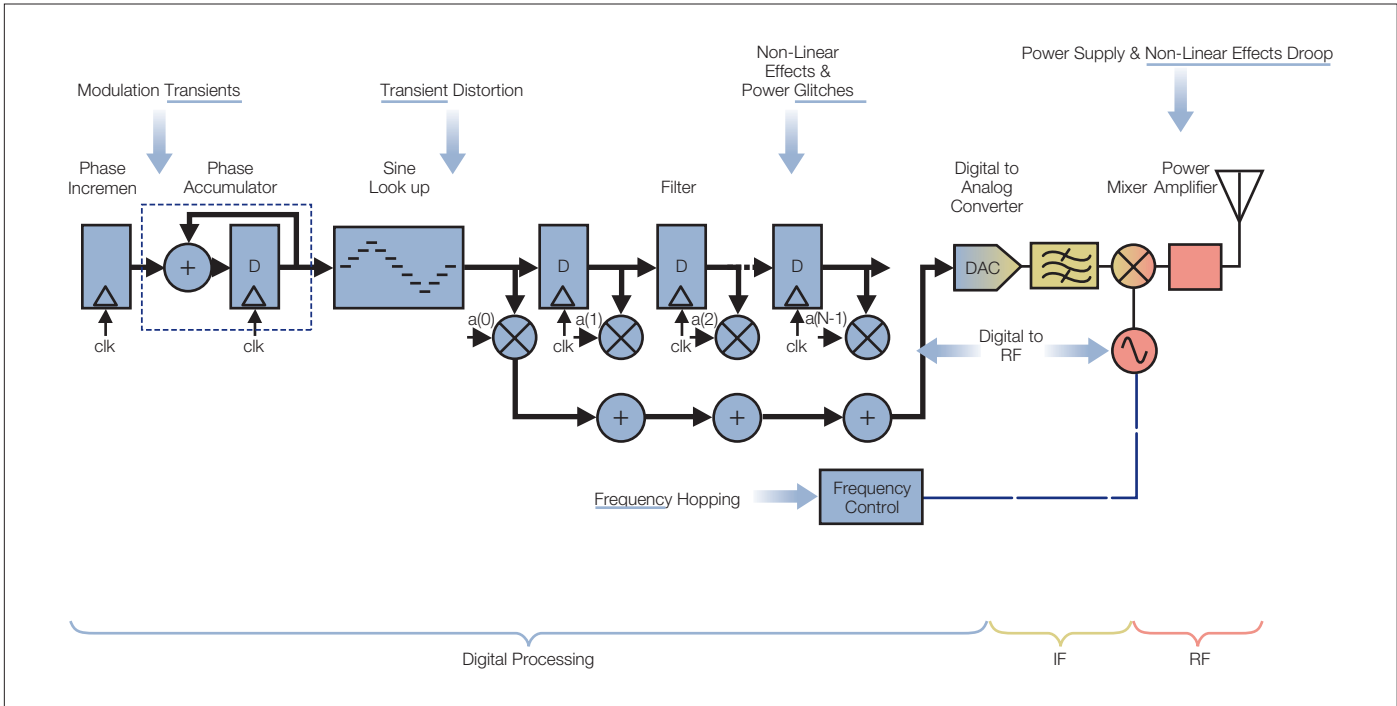

Figure 2. Possible error sources in a simplified SDR block diagram.
transmitter quality and low system data rates. In the past, designers were able to use conventional test equipment to demodulate stationary carriers located at the center frequency of their modulation analyzer. Unfortunately, conventional test equipment is not capable of demodulating today's wideband hopped signals. Because these signals hop over the band of operation, analyses of off-center frequencies are required to ensure optimum modulation quality. The dynamic generation of RF waveforms through DSP and the integration of digital and RF circuits often on the same integrated circuit (IC) also create issues not seen in traditional RF transceiver designs. Figure 2 shows some of the error sources found in SDRs: Modulation transients, Non-linear effects of amplifiers, and Digital to RF crosstalk to name a few. The performance of SDR transmitters must be verified with measurements that are beyond the traditional RF transmitter conformance tests. Simply passing these tests does not ensure a device will work properly, and system behavior must be carefully and thoroughly observed since software is continually changing system parameters.
software anomalies can create temporal RF impulse bursts of energy at the RF output. To isolate software and hardware performance, the RTSA can be used to trigger on transients in the frequency domain, capture the events into memory and drive the other test instruments to probe possible error sources (as illustrated in Figure 2). The key to capturing the transients in the frequency domain is Tektronix' Frequency Mask Trigger (FMT). Once acquired, the signals are then presented in a time-correlated fashion, helping designers see how anomalies in the digital and analog blocks of an SDR will propagate to the RF output as impulse noise.